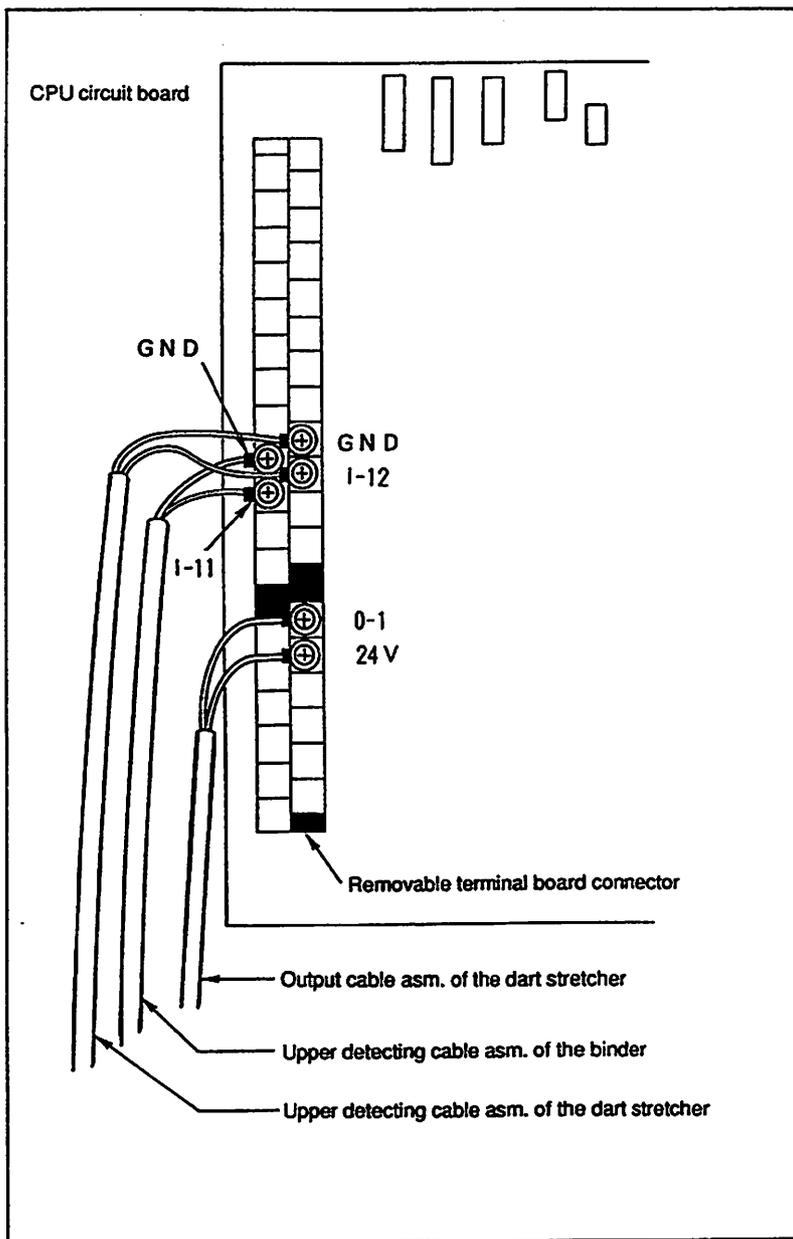

Fig. 18
3. Connect the solenoid valve cable to the output terminal board. (See Fig. 18 for the position of the terminal board and terminal numbers.)
4. Connect the upper detecting sensor to the input terminal board. (See Fig. 18 for the position of the terminal board and terminal numbers.)
7. Connect the upper detecting cable asm. of the dart stretcher, upper detecting cable asm. of the binder and output cable asm. of the dart stretcher to the input/output terminal board on the control circuit board. (Fig. 18)